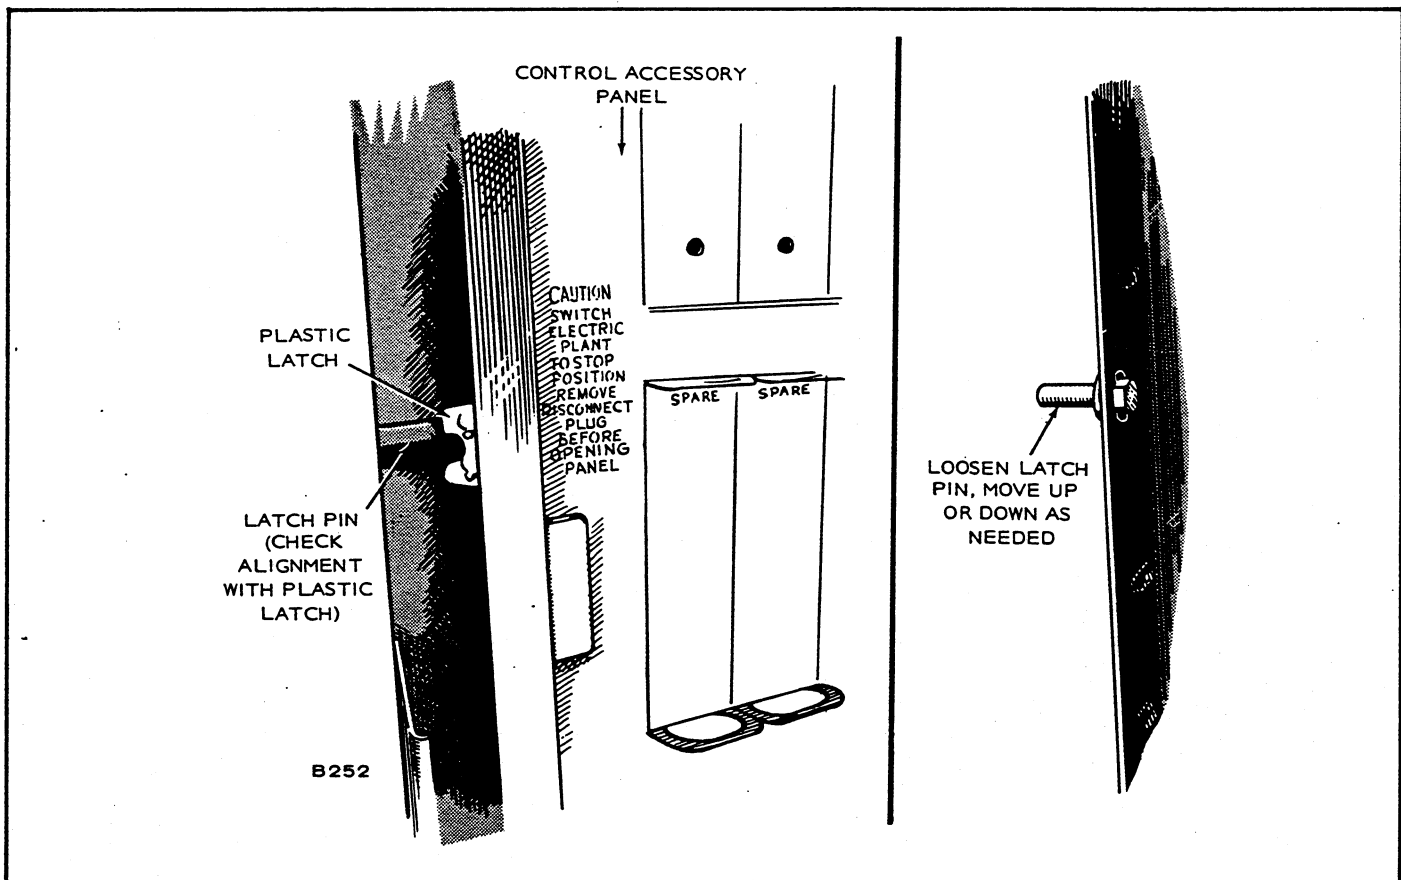

FIGURE 13. ADJUSTMENT OF LATCH PIN
8. Loosen the latch pin on the edge of the meter panel or cabinet center support, whichever applies, and move the latch pin up or down in the slot as necessary (Figure 13). Then tighten.